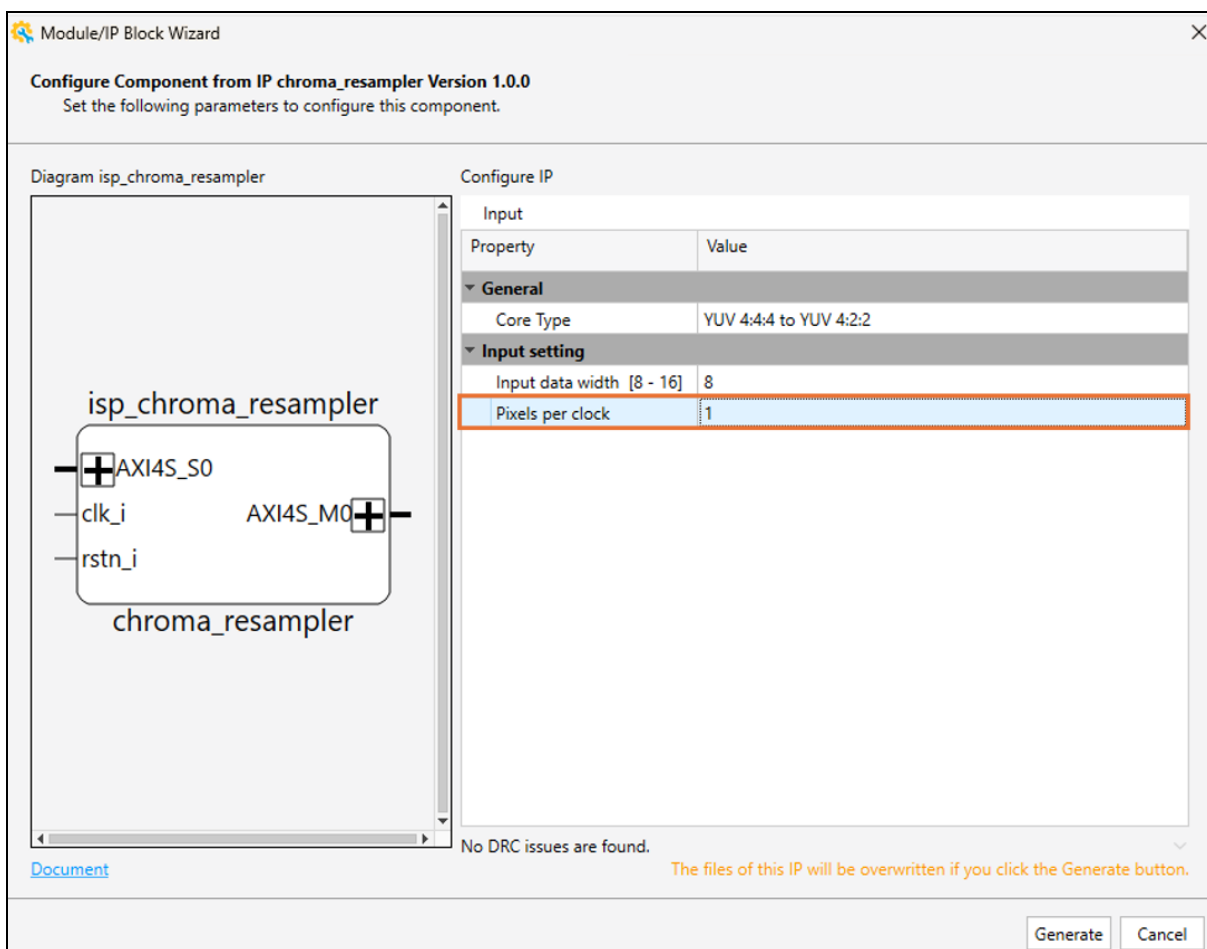

Figure 7.26. Chroma Resampler Configuration
2. Under the **Input setting**, set the **Pixels per clock** to 1 (Figure 7.26).